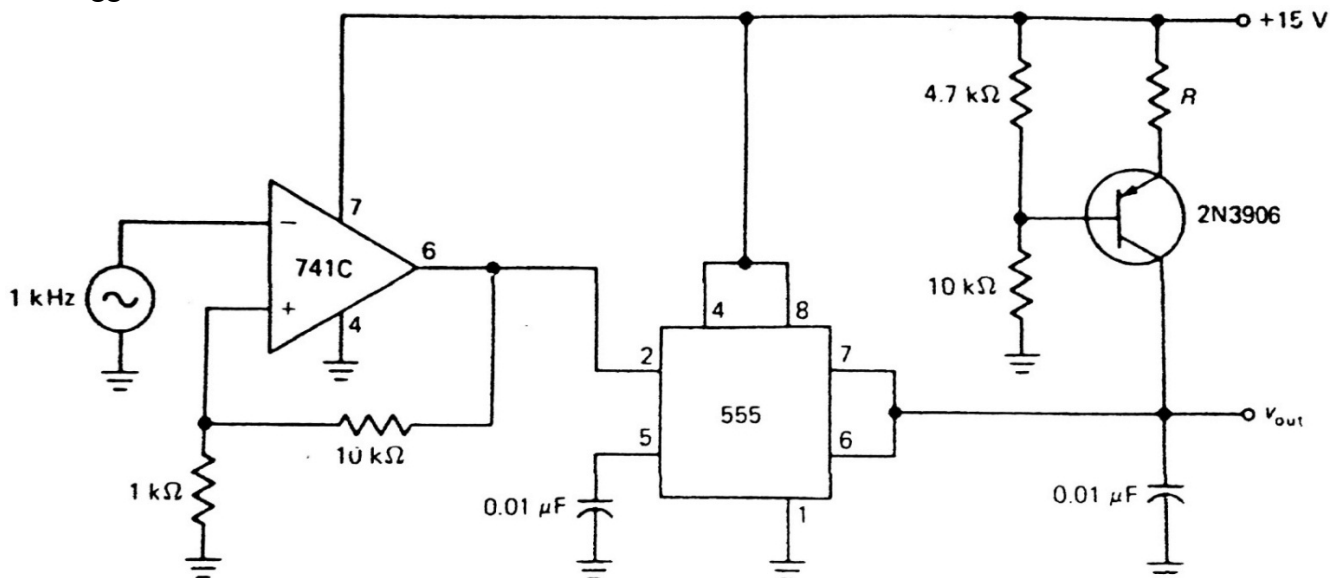

Figure 5.12. Experimental *Sawtooth* Generator
1. Calculate the charging current in figure 5.12 for each value of R shown in table 5.3. Record the values!
3. Connect the circuit of figure 5.12 with an R of 10 kΩ!